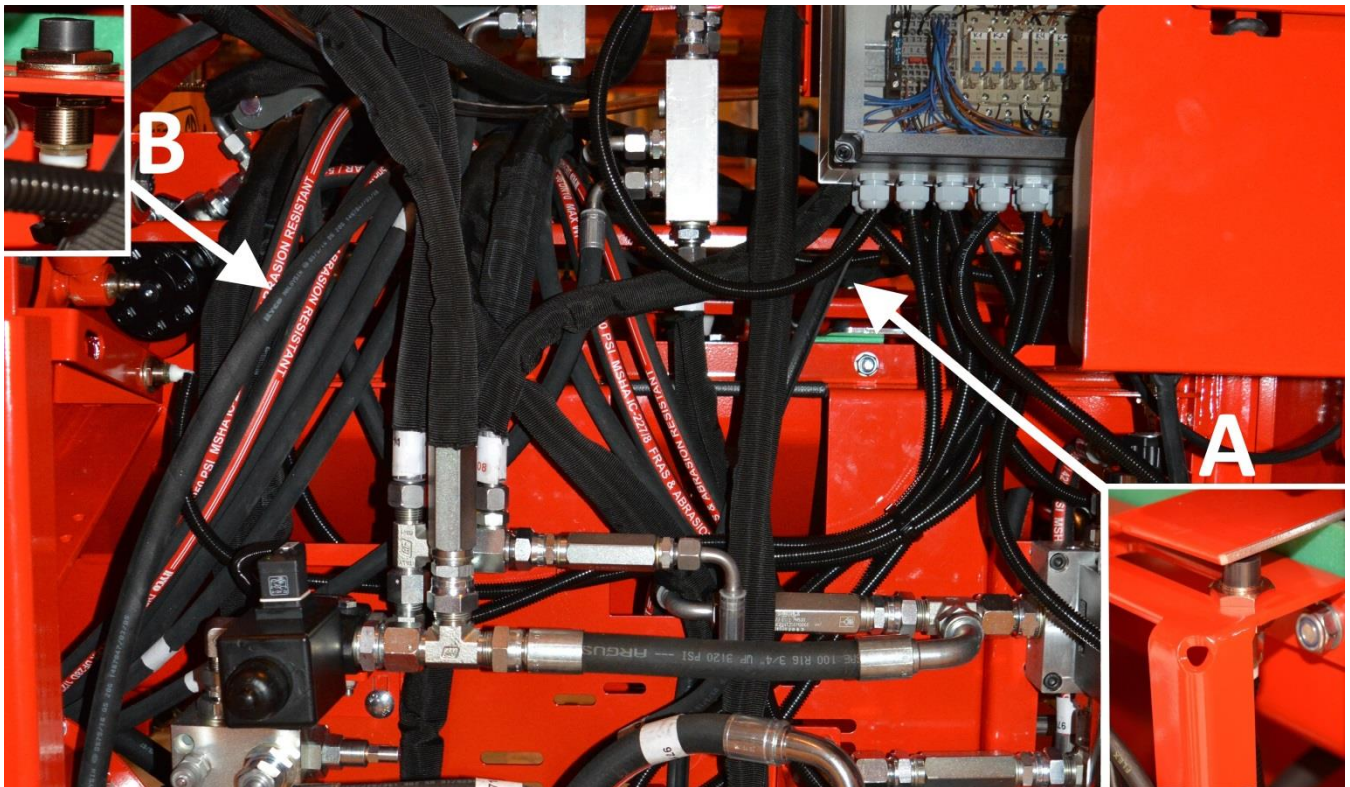

Figure 23.
In the Hakki Pilke 43 firewood processor, the splitting cylinder is controlled electrically with sensors A and B in Figure 23. The stroke length of the splitting cylinder can be adjusted as follows:
2. Remove the machine's cover plate, as shown in Figure 23.
3. Sensor A (Figure 23) determines the spot in which the splitting beam stops during the return motion. If necessary, change the position of the sensor. Loosen the sensor's fastening bolt, move the sensor and tighten the bolt to secure it in place.
4. Sensor B (Figure 23) is used to determine the point at which the splitting cylinder changes direction during the splitting cycle, i.e. how close to the splitting beam the splitting blade goes. If necessary, change the position of the sensor, as instructed in section 3 above.